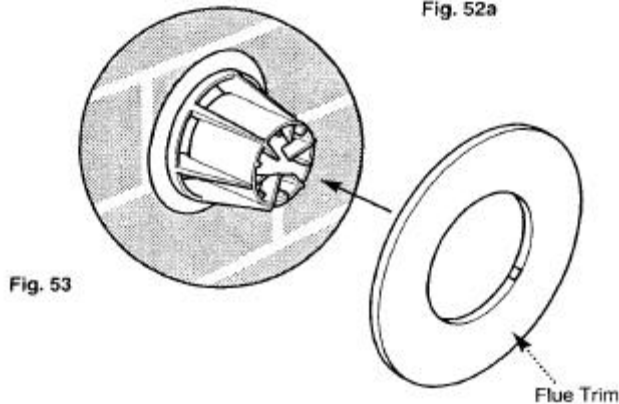

Fig. 53
10. The flue trim provided may be fitted if required, to neaten the make-up around the terminal (Fig. 53).